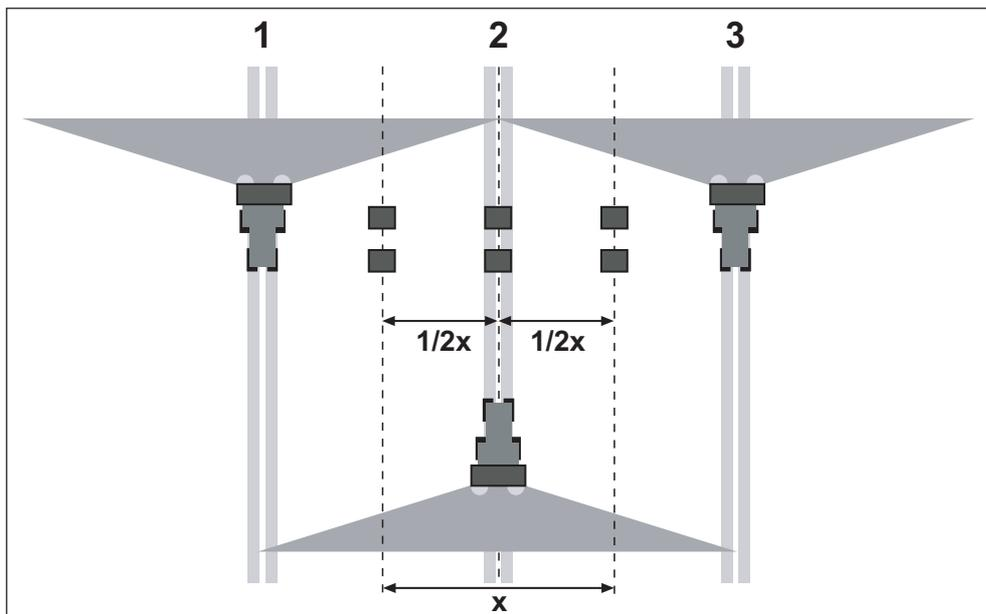

Figure 7.23: Layout for three passages
- Place two collecting vessels each, one after another, at a distance of **1 m** in the overlap zones and in the centre track (according to figure 7.23).